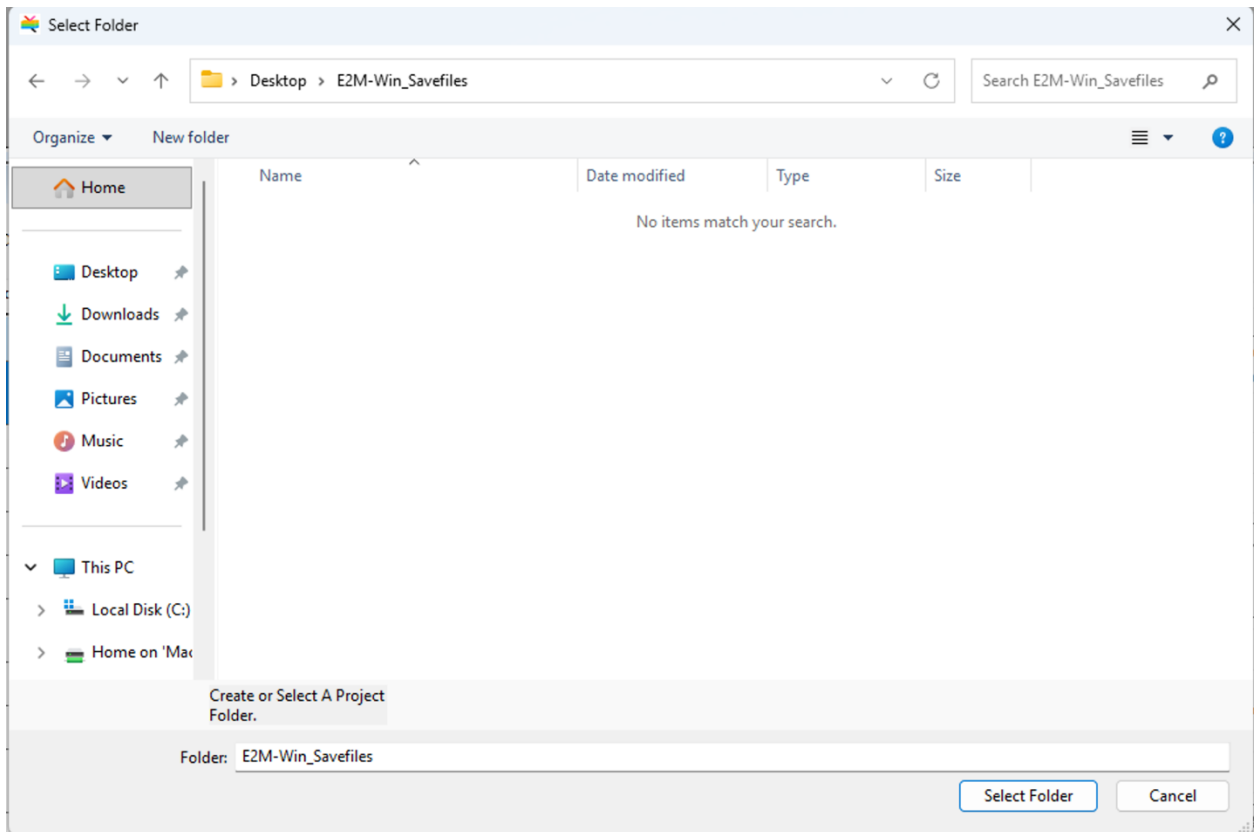

Figure 5. "Select Folder" dialog
4. Select the directory where your save files will be stored with a dialog as shown in Figure 5.